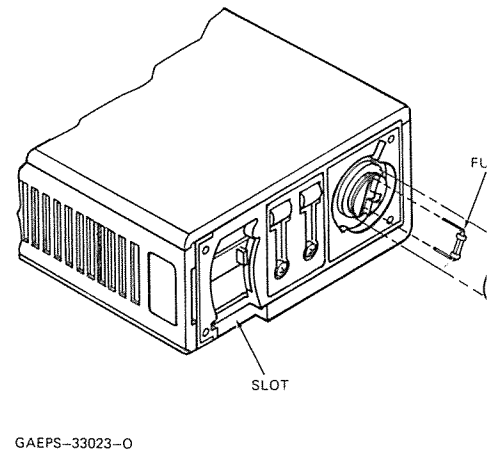

Figure 8. Battery Removal/Fuse Replacement
Step 4. Rotate the battery about 180 degrees, until the cam lock is clear, and remove the battery from the *DVP* code inserter. (See Figure 8.)